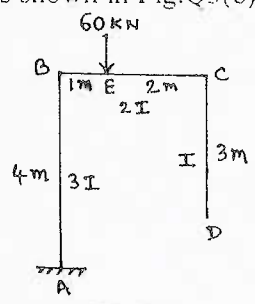

Fig.Q3(b)
- b. Compute the vertical displacement at the free end D, of the frame by strain energy method. If  $EI = 2 \times 10^4 \text{ kNm}^2$ , the frame is as shown in Fig.Q3(b).